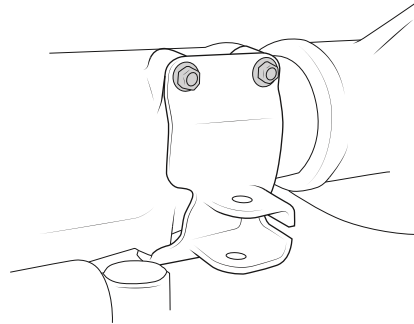

Figure 17
A. Remove the two upper bolts from the steering dampener bracket at the axle (fig. 17).